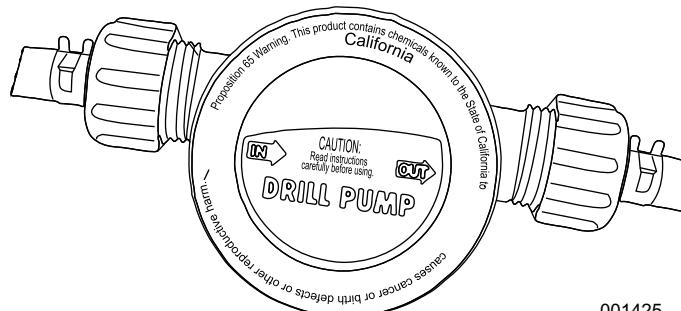

Figure 4-5. Pump Assembly Step 2
- See **Figure 4-5**. Install the ½ in. Hose Assembly onto the outlet side of the Drill Pump. Twist the fitting clockwise until it is snug. Do not over-tighten.